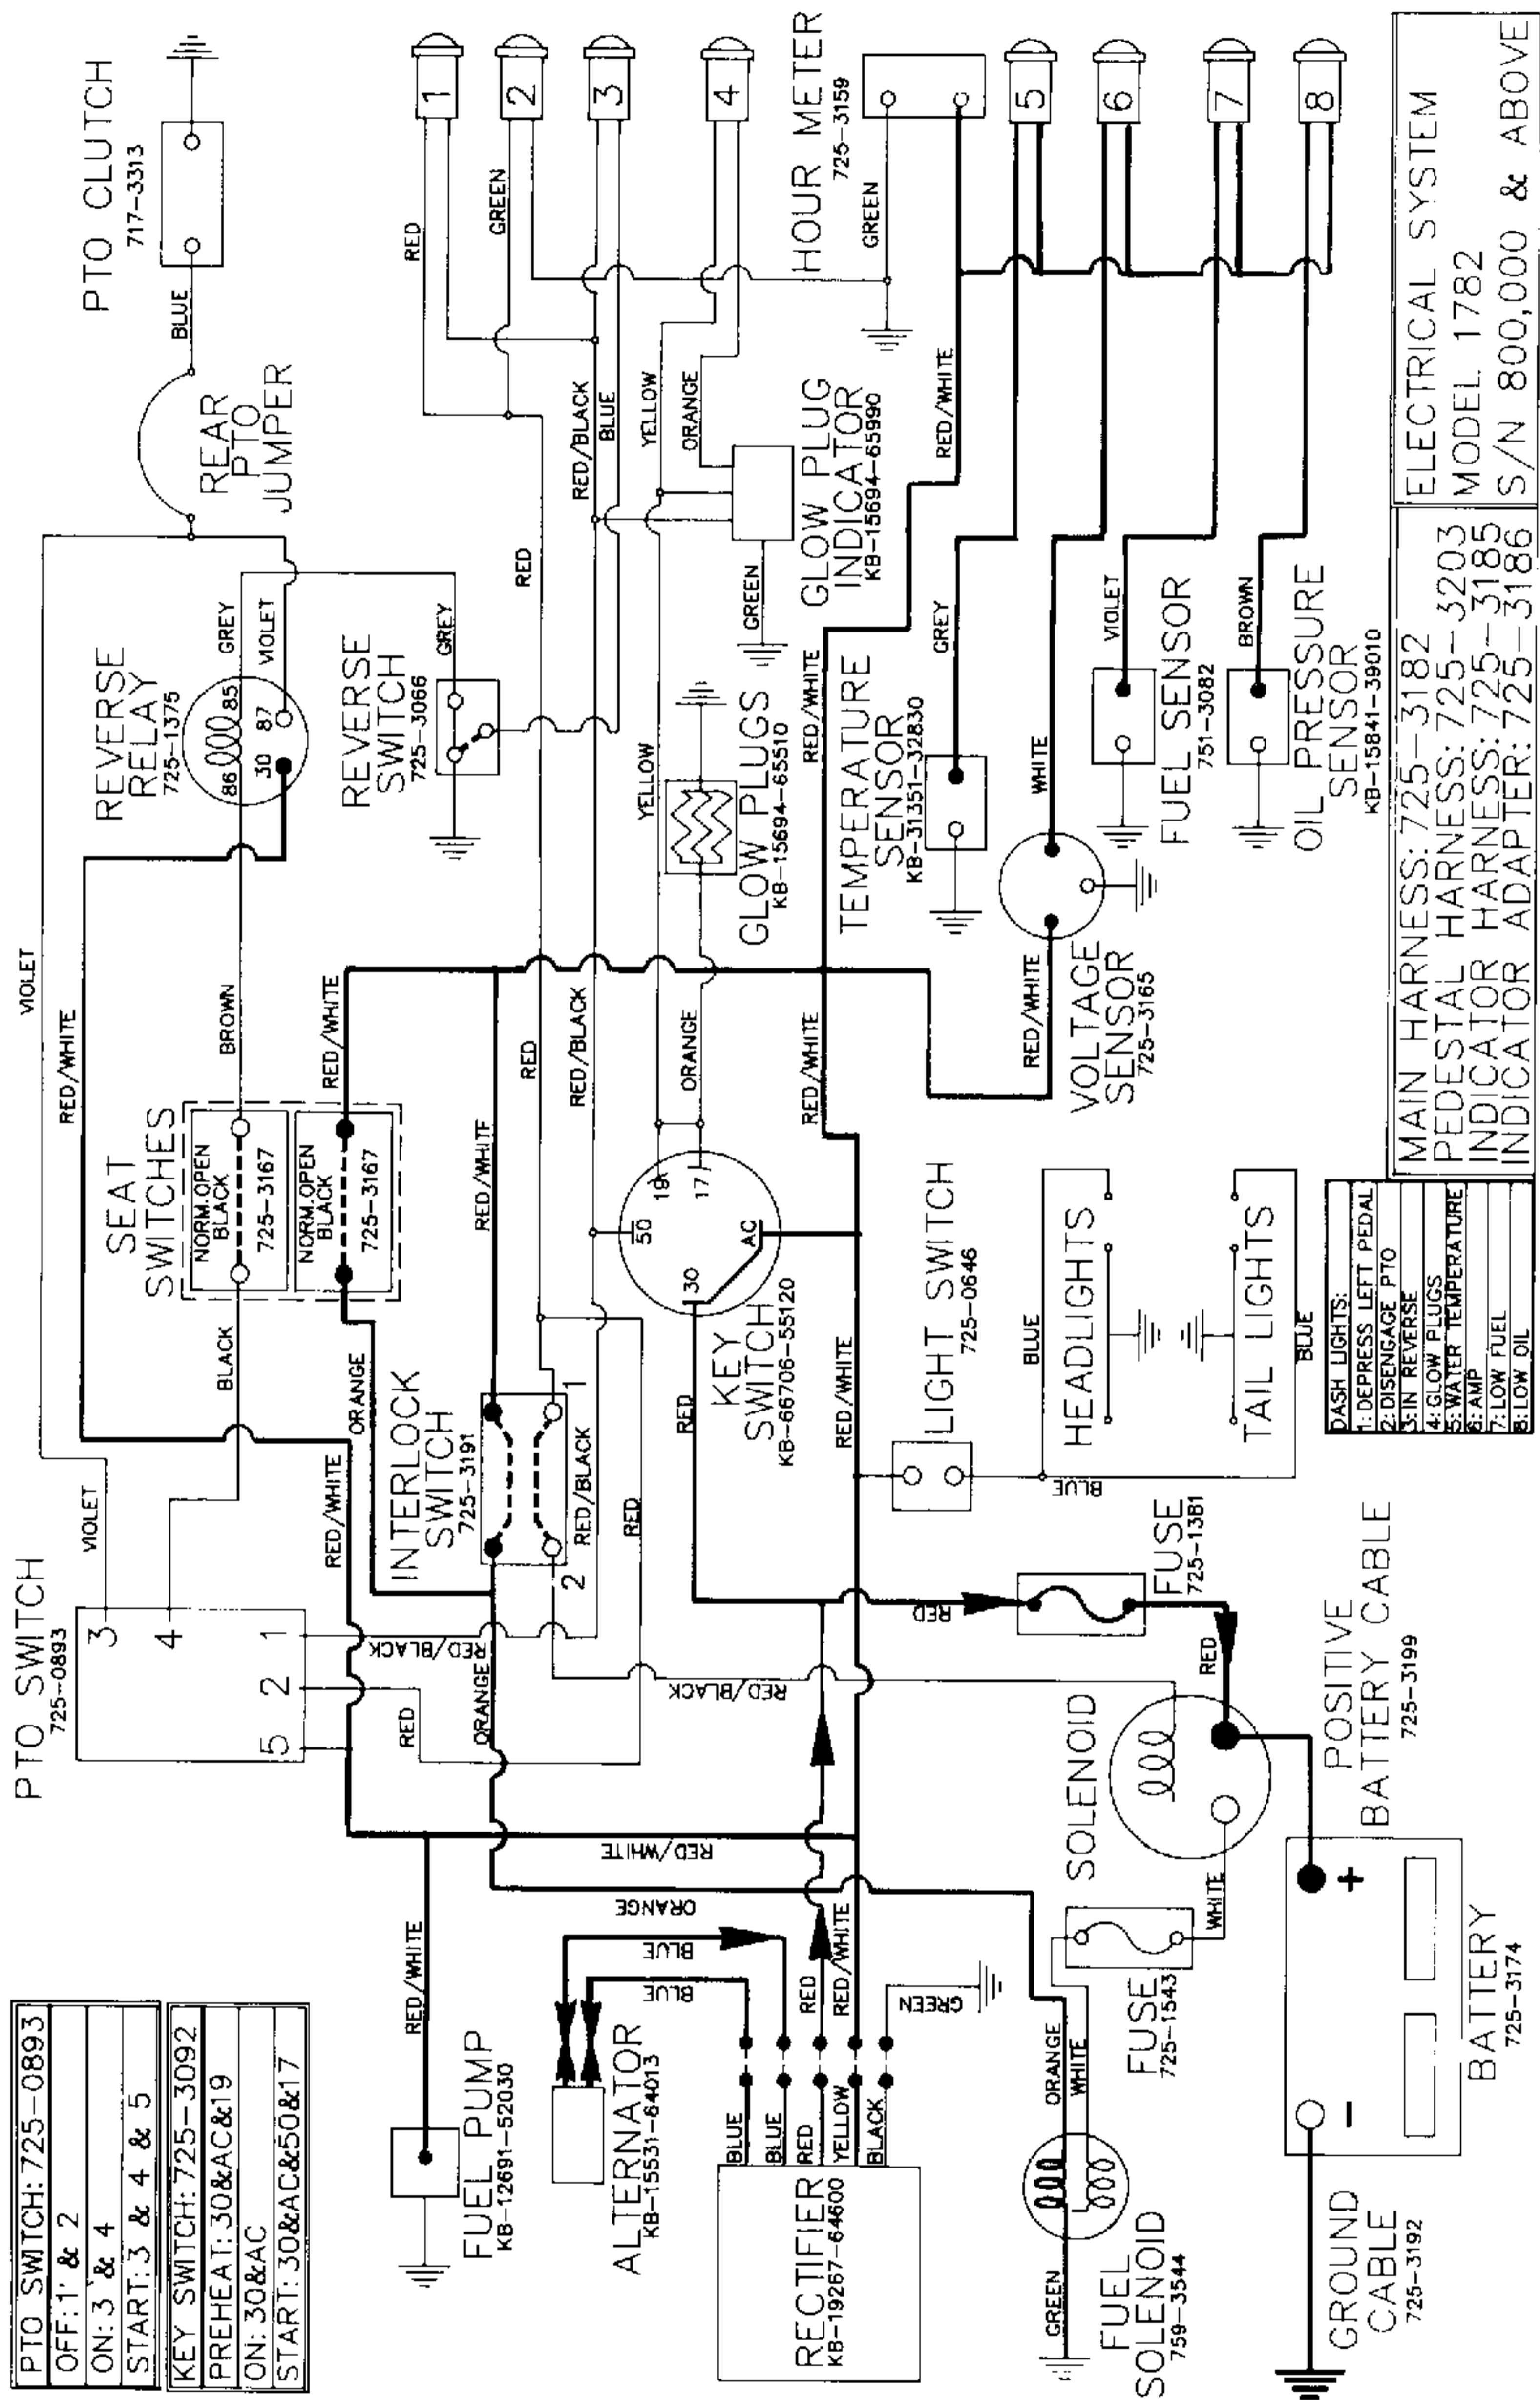

Figure G-20. Engine Run and Charging, Model 1782.
G-4.5 Function – Engine Run and Charging (Refer to Figure G-20).
- a. Alternating current (AC) is provided to the rectifier/regulator from the alternator by the two blue wires. The rectifier/regulator changes this current to direct current (DC) and sends it out the red wire. Current then flows to the fuse and then passes through the red wire to the solenoid where it is then transferred to the battery as charging current.
2. Secondary Charging Circuit (Shown Without Directional Arrows on Figure G-20).